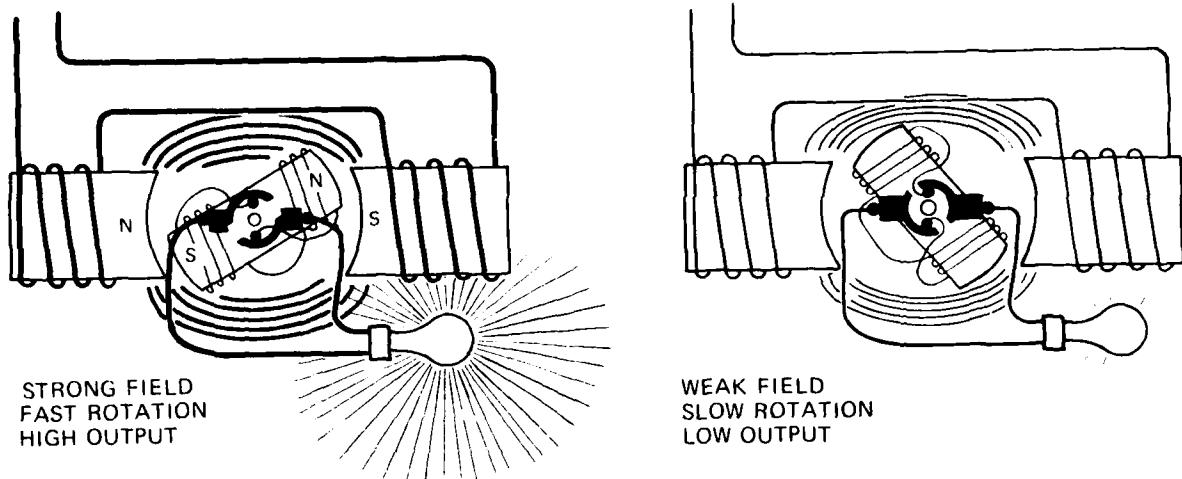

Figure 26
- Increasing the strength of the magnetic field and/or increasing the speed of the armature increases the generated voltage. (See Figure 26)